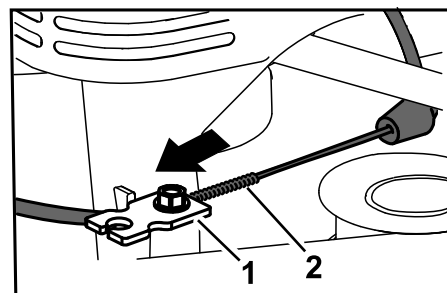

Figure 44
6. Pull the cable jacket to remove slack (Figure 44).